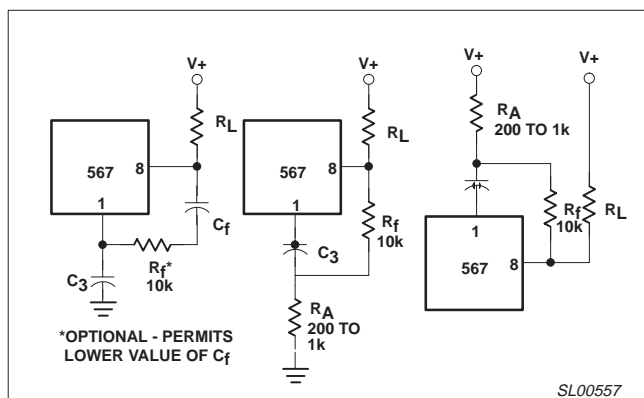

Figure 20. Chatter prevention
**CHATTER PREVENTION** (Figure 20)
Chatter occurs in the output stage when  $C_3$  is relatively small, so that the lock transient and the AC components at the quadrature phase detector (lock detector) output cause the output stage to move through its threshold more than once. Many loads, for example lamps and relays, will not respond to the chatter. However, logic may recognize the chatter as a series of outputs. By feeding the output stage output back to its input (Pin 1) the chatter can be eliminated. Three schemes for doing this are given in Figure 20. All operate by feeding the first output step (either on or off) back to the input, pushing the input past the threshold until the transient conditions are over. It is only necessary to assure that the feedback time constant is not so large as to prevent operation at the highest anticipated speed. Although chatter can always be eliminated by making  $C_3$  large, the feedback circuit will enable faster operation of the 567 by allowing  $C_3$  to be kept small. Note that if the feedback time constant is made quite large, a short burst at the input frequency can be stretched into a long output pulse. This may be useful to drive, for example, stepping relays.